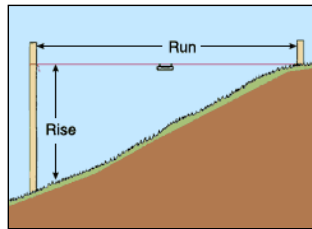

Figure 1.
- a. You will need to calculate the slope of your path (figure 1) using the following equation: